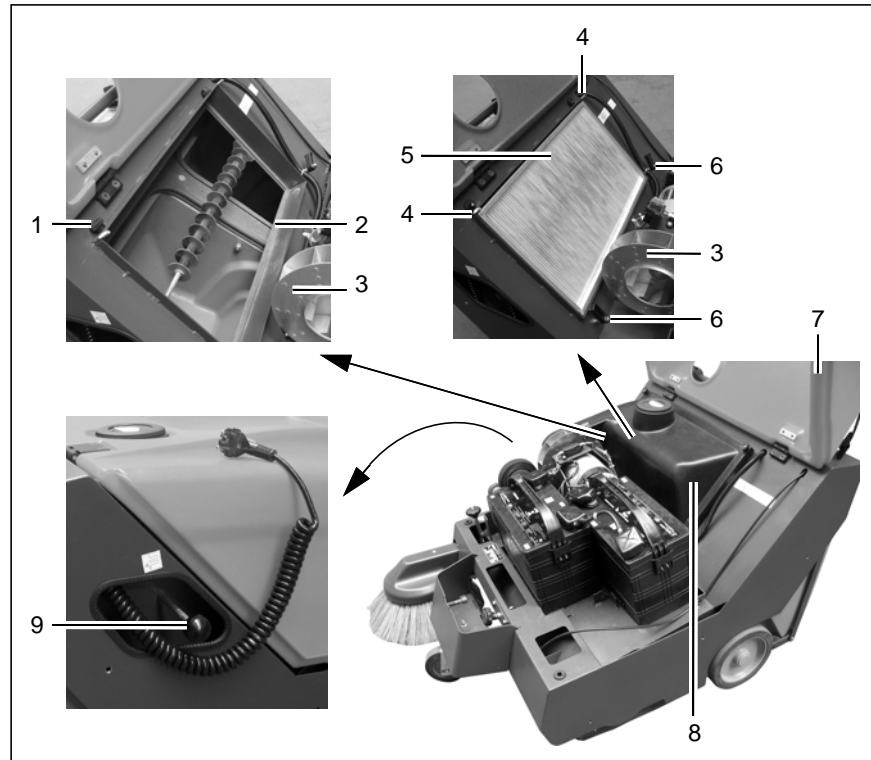

Fig. 26
Clean the panel air filter (Fig. 26/5) in the dust vacuum regularly and as necessary using the shaking device:
1. When the engine is switched off, pull/push the lever (Fig. 26/9) of the shaking device quickly, several times.
1. Unlock the hood (Fig. 26/7) using a square wrench and open the hood (Fig. 26/7).
Ensure the engine has stopped before opening the hood (Fig. 26/7). Risk of injury through belt drive and rotating fan (Fig. 26/3)!
2. Release the top filter cover locks: Unscrew the knurled screws (Fig. 26/1) from the threaded pins (Fig. 26/4).
3. Release the bottom filter cover locks: Pivot the hinged locks (Fig. 26/6) outwards.
4. Remove the filter cover (Fig. 26/8).
5. Remove the panel air filter (Fig. 26/5).
1. Drop the panel air filter (Fig. 26/5) a few times from a small height onto a level, solid surface. Be careful not to damage the filter ribs!
The ground must not have any surface irregularities. Do not drop the panel air filter (Fig. 26/5) onto the ground at a slant.
Never install panel air filters (Fig. 26/5) which have damaged filter ribs!
If the panel air filter (Fig. 26/5) is removed, check the self-adhesive sealing strips (Fig. 26/2) for signs of damage. Damaged sealing strips (Fig. 26/2) must be replaced:
1. Pull off the damaged sealing strips (Fig. 26/2).
2. Clean any residual adhesive from the surfaces on which the sealing strips (Fig. 26/2) must be adhered.
3. Adhere the new sealing strips (Fig. 26/2).
1. Insert the thoroughly cleaned or new panel air filter (Fig. 26/5) from the correct side in the filter support frame.
Pay attention to the labeling on the side of the panel air filter (Fig. 26/5)!
2. Replace the filter cover (Fig. 26/8).
3. Close the bottom filter cover locks: Pivot the hinged locks (Fig. 26/6) over the edge of the filter cover (Fig. 26/8).
4. Close the top filter cover locks: Screw the knurled screws (Fig. 26/1) on the threaded pins (Fig. 26/4).
5. Close the hood (Fig. 26/7) so that it audibly locks.
5. Check whether dust has accumulated on the inner side of the panel air filter (Fig. 26/5).
Do not open the hood (Fig. 26/7) when the engine is running. Risk of injury through belt drive and rotating fan (Fig. 26/3)!
1. When the engine is switched off, hood (Fig. 26/7) is open and filter cover (Fig. 26/8) removed, check whether dust escapes at the edges of the panel air filter (Fig. 26/5).
2. If this is the case, check the sealing strips (Fig. 26/2), refer to Section 5.10.4 and replace, if necessary.
3. Check the panel air filter (Fig. 26/5) and replace, if necessary. The frame of the panel air filter (Fig. 26/5) must not be twisted nor show signs of damage. Ensure that the panel air filter (Fig. 26/5) has been inserted true to side, refer to Section 5.10.5.
4. Repeat this test a certain time after cleaning. If dust continues to escape at the edges of the panel air filter (Fig. 26/5), contact a PowerBoss service center.